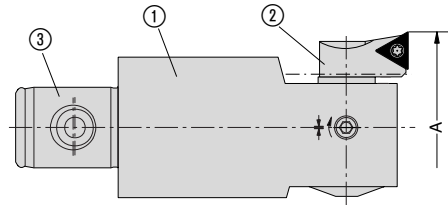

Fig. 1
- on the spindle side, the tool is designed with a Wohlhaupter- **ML-SIZE**[®] connection ③ (Fig. 1)